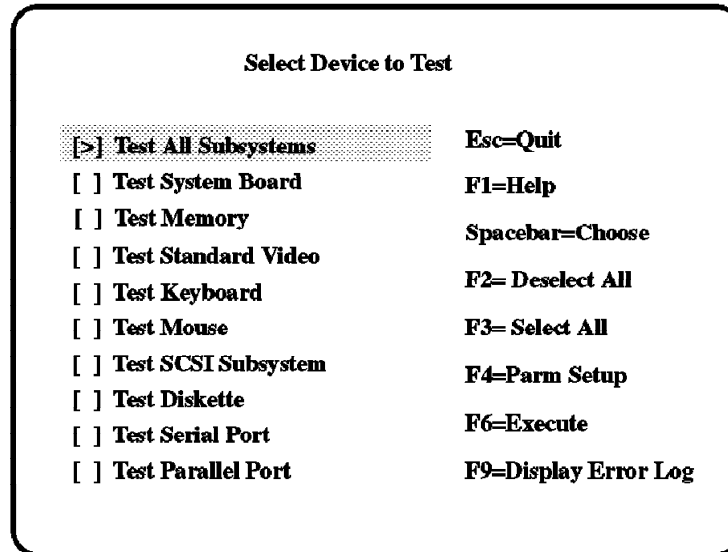

Figure 82. System Management Services - Device Test Menu
4. When the *Select Device to Test* menu appears (see Figure 82), press **F9**.